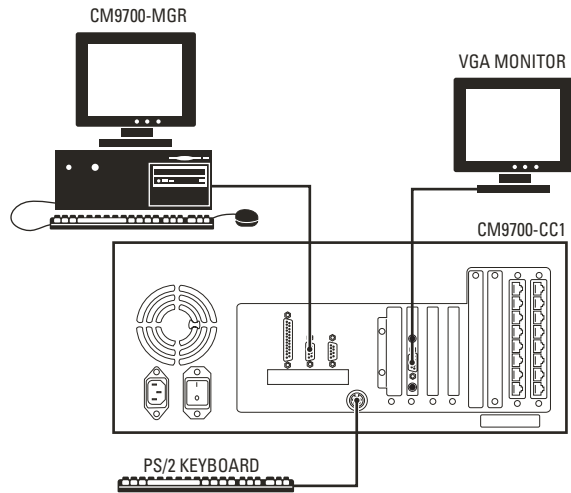
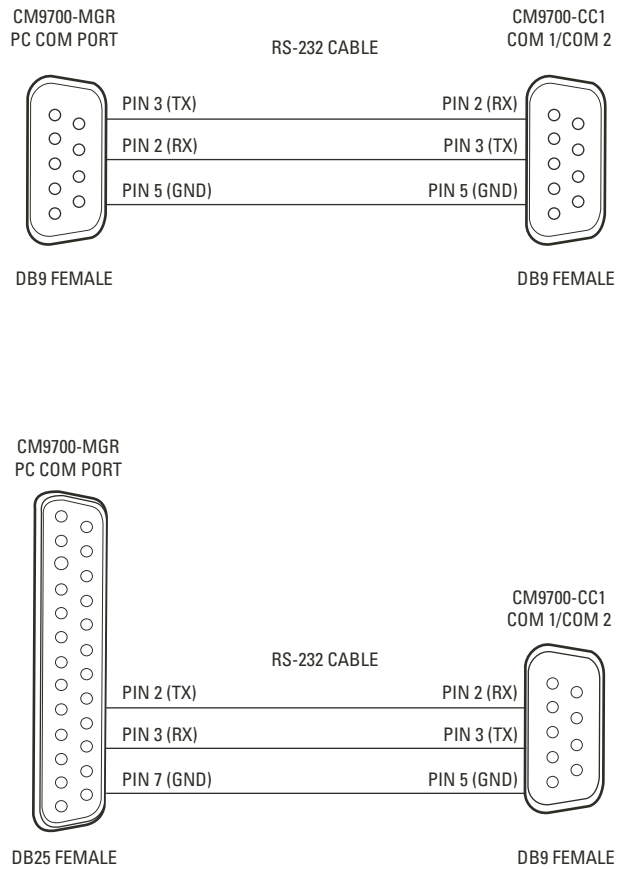
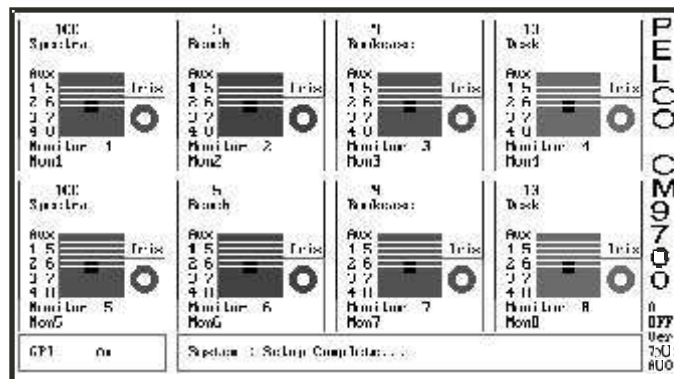

Figure 22. CM9700-CC1 Device Connections
Figure 23. CM9700-MGR PC Pin-Out Detail
Figure 26. CC1 Initialization
3. Connect a VGA monitor to the CM9700-CC1, as shown in Figure 22. This monitor displays the CC1 system diagnostic screen, as shown in Figure 26.
4. Connect the PS/2 keyboard to the PS/2-to-AT keyboard adapter, and then connect the adapter to the CM9700-CC1, as shown in Figure 22.
5. Complete the following steps to connect a PC to the CM9700-CC1. Refer to Figure 22 and Figure 23.